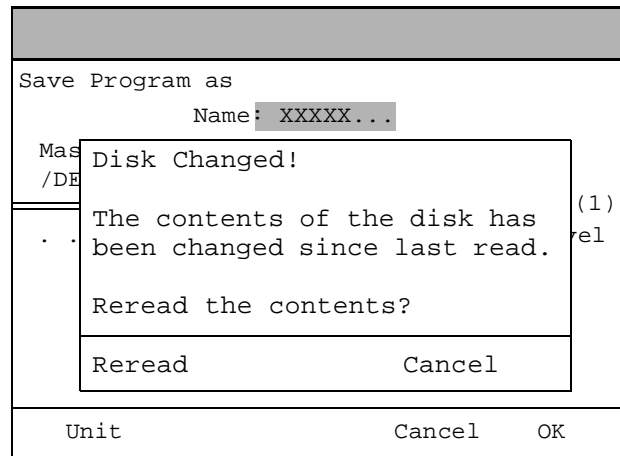

Figure 68 An alert box.
7. Press **OK**. A window like the one in Figure 68 appears.